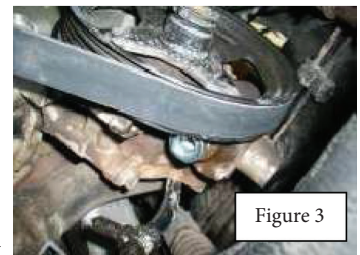

Figure 3
9. Clean the pump port and install the new quick-disconnect nut to the pump (packaged separately), and torque to 10-20 ft/lbs. (Figure 3)